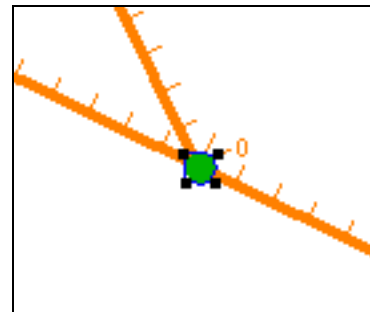

Figure 5.19 Moving a Stream Junction
2. With the **Stream Node Tool**  selected, double-click on the stream junction. The stream junction you select will turn dark green and will have small squares (handles) at each corner (Figure 5.19).